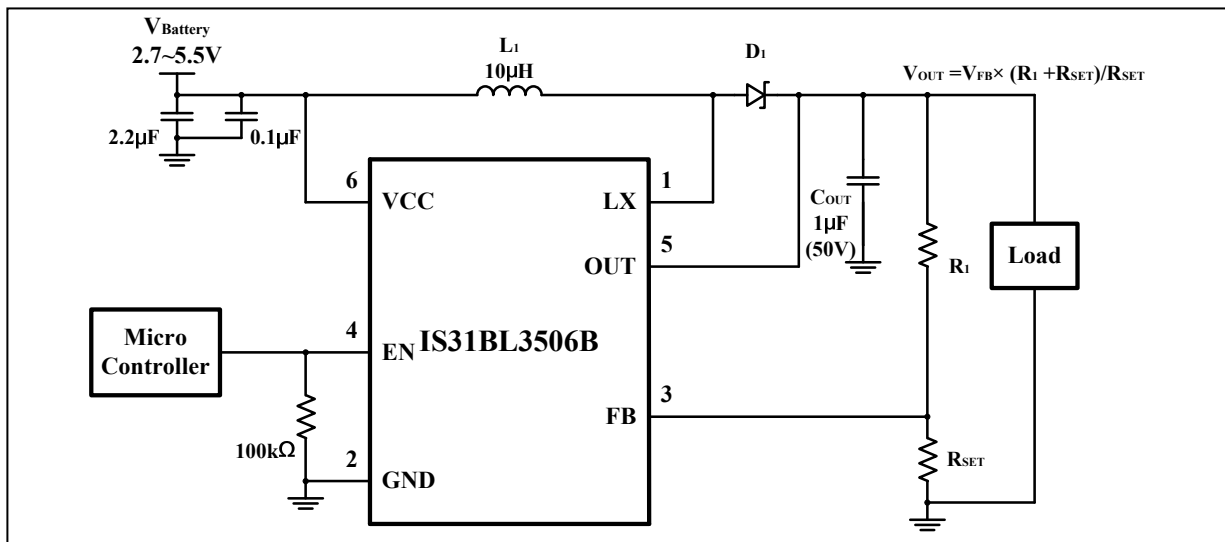

Figure 3 Constant Output Voltage For General Purpose Use
The IS31BL3506B can be configured to provide a constant output voltage (Figure 3). The output voltage level can be computed using the following equation, (5). The device internal V_{FB} is 0.2V (Typ.).